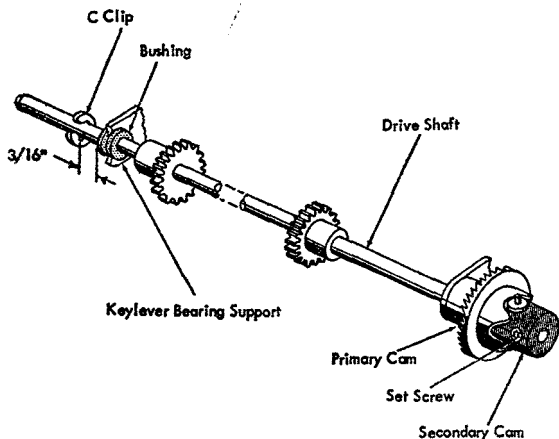

Figure 41. Drive Shaft Adjustment
11. DRIVE SHAFT. With the reverse lever unlatched, position the drive shaft to the left so there is a clearance of $\frac{3}{16}$ " between the C clip on the shaft and the left-hand bushing in the keylever bearing-support (Figure 41). Set the nylon primary cam against the keylever bearing-support and tighten the set screw in the secondary cam.